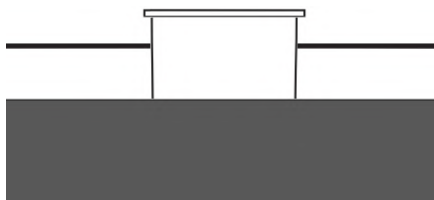

Figure 8
**Do not fill the tank to the brim. Fill with diesel up to the bottom of the tank strainer. Always leave approx. 1/3 of the fuel tank unfilled. (Fig.8)**